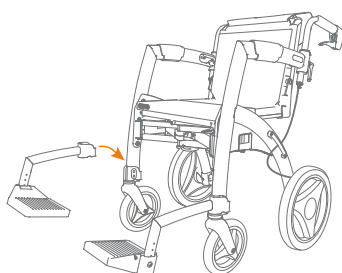

Figure 39: Place the footrests.
- e. Place the footrests at the front of the Rollz Motion Electric, into the footrest holders on the frame. Slide them down from the top of the footrest holders (**Figure 39**).